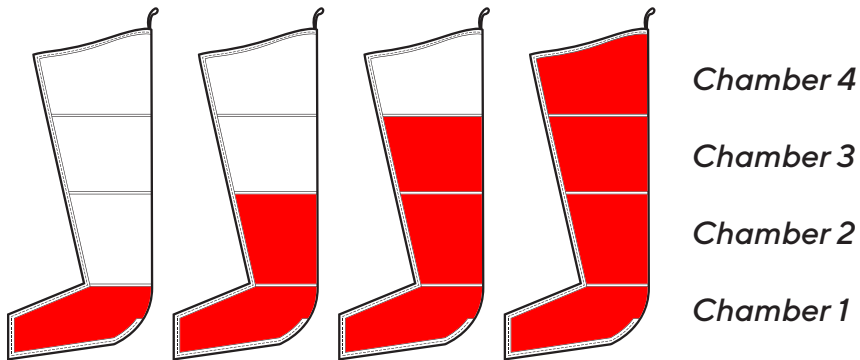

Figure 1 - Sequential Cycle Mode
- A directional massage is applied, starting at the base of the treated area, and progresses upwards towards the torso and then releases. (see Figure 1)